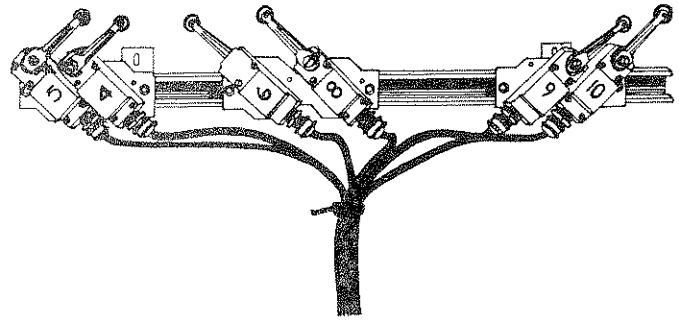

Fig. 42
2. Loosen mounting bolt and slide switch and mount as close to LS-5 (Plunger Return Switch) as possible, see Fig. 42.